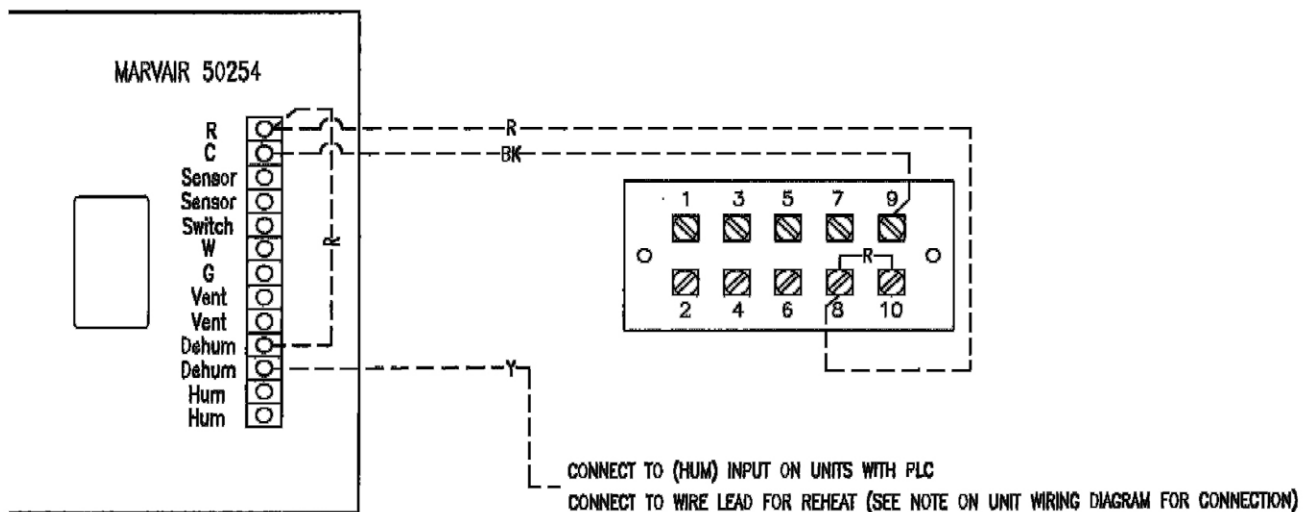

Figure 6a. Humidistat (P/N 50254) Wiring to a ComPac Air Conditioner with Reheat.
2. Mount the thermostat on the wall of the shelter. The thermostat should be located so that the supply air from the unit does NOT blow directly on to the thermostat. Connect the thermostat to the terminal block in the ComPac air conditioner as shown in Figures 6a and 6b.